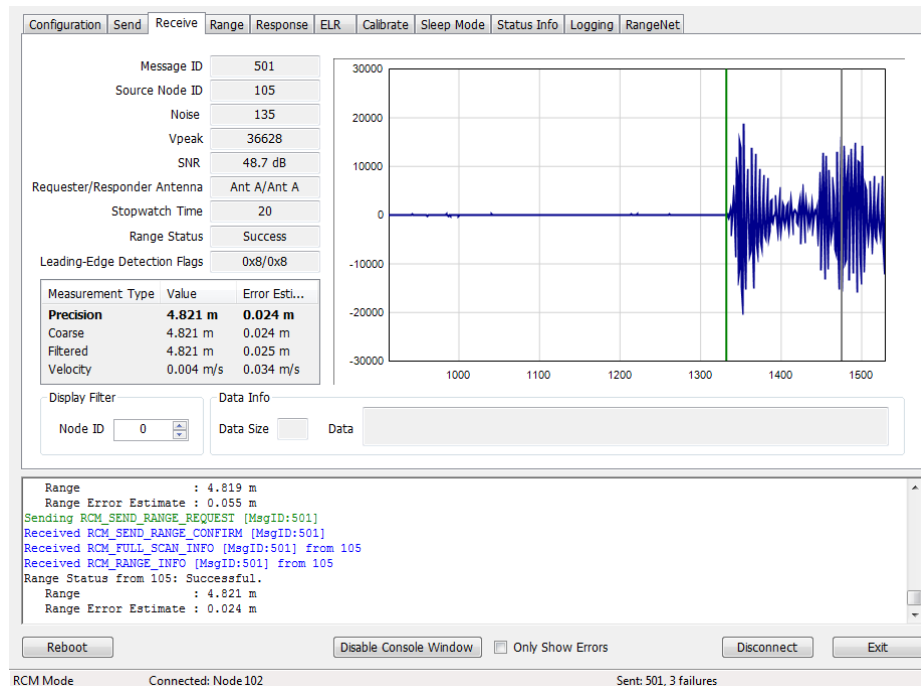

Fig. 3: Typical waveform as displayed by the GUI
- Capture, display to the screen, and log waveforms to disk. **Figure 3** illustrates a representative waveform as displayed by the GUI.